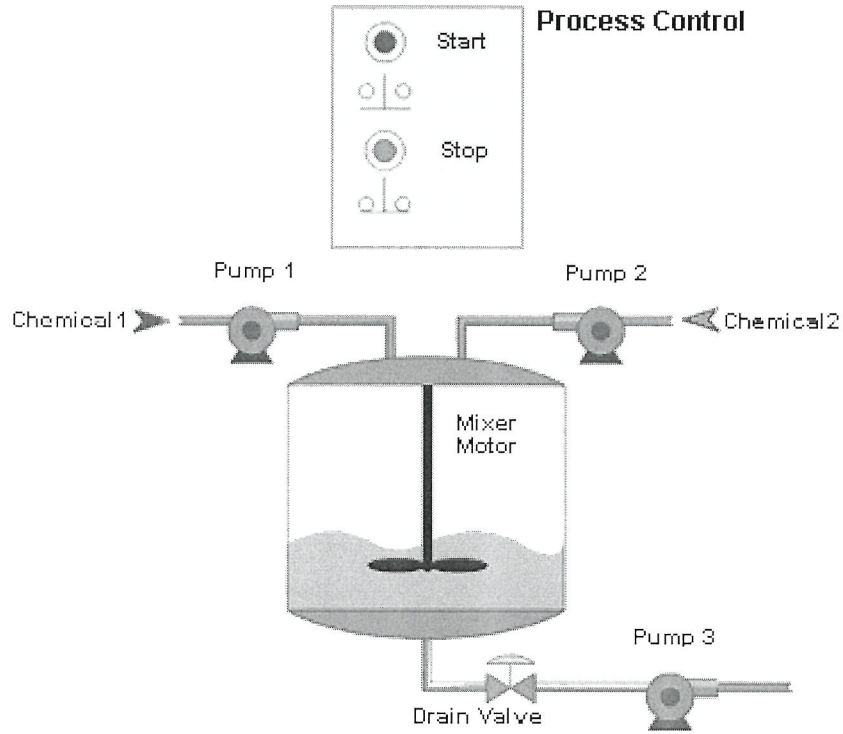

Figure Q6(b)
- (b) In the **Figure Q6(b)**, a tank will be filled with two chemicals, mixed, and then drained. When the Start button is pressed, the program will start Pump 1. Pump 1 runs for 10 seconds, filling the tank with the first chemical, then shuts off. The program then starts Pump 2 to fill the tank with second chemical until float switch is triggered then shut off automatically. At the same time, the program starts the mixer motor to mix these two chemicals for 60 seconds. The program then opens the drain valve and starts Pump 3. Pump 3 shuts off after 15 seconds and the process stops. A manual Stop switch is also available in the system.